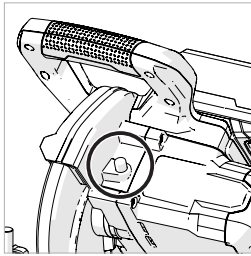

Fig. 18
- Press the black arbor lock button to lock the arbor. **(Fig. 18)**